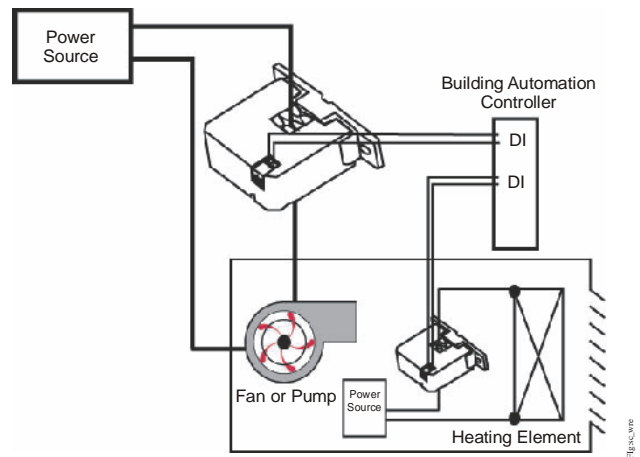
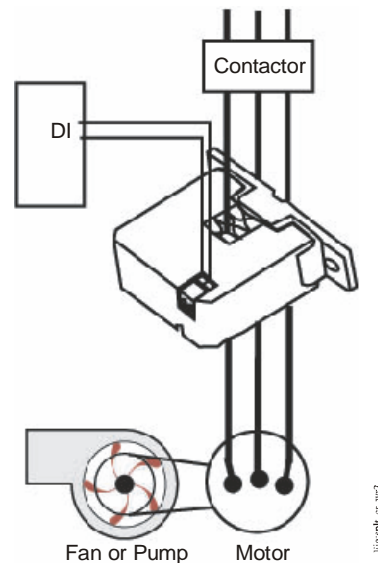

Figure 2: Model CSD-CF0A0-1/CSD-CF0J0-1
Figure 3: Model CSD-CA1G0-1
3. Wire CSD output terminals to the control box Digital Input (DI) terminal (30 V maximum terminal voltage).
4. Reconnect the power conductor cable. (For wiring example, see Figure 2 and Figure 3.)